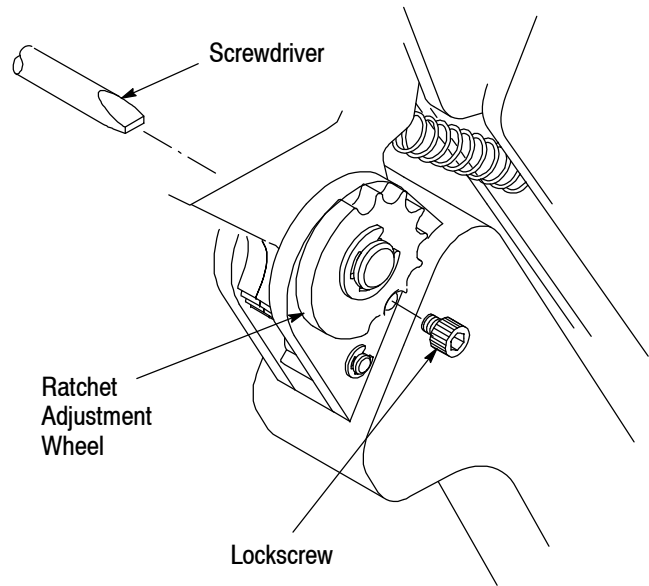

Figure 6
6. SHUT HEIGHT ADJUSTMENT (Figure 6)